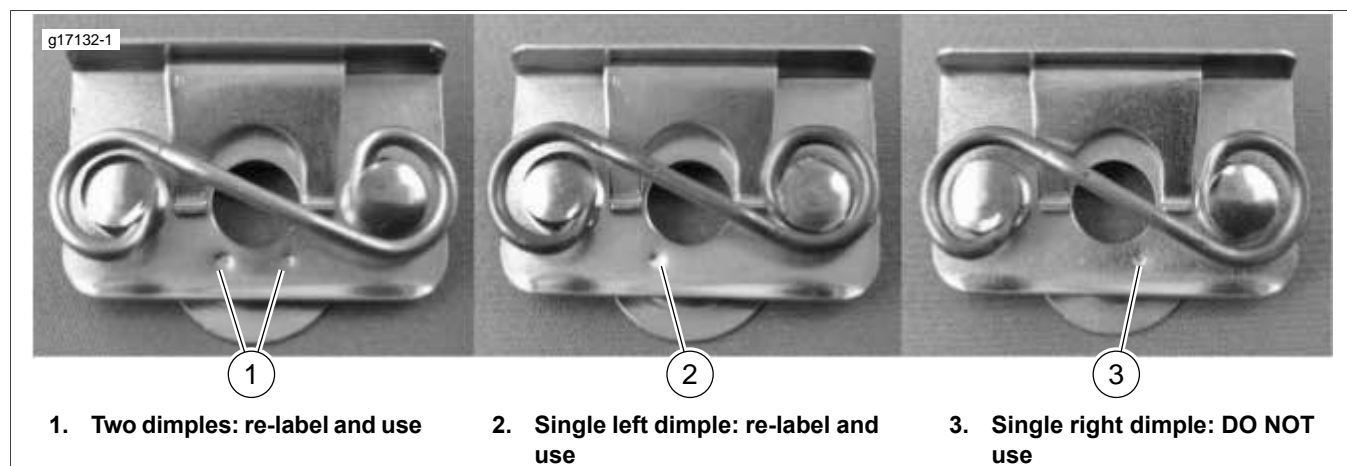

Figure 1. Saddlebag Stud Receptacles (shown inverted from installed position)
- See Figure 1. Inspect all later date code inventory of kit 91500084 as shown in the graphic.